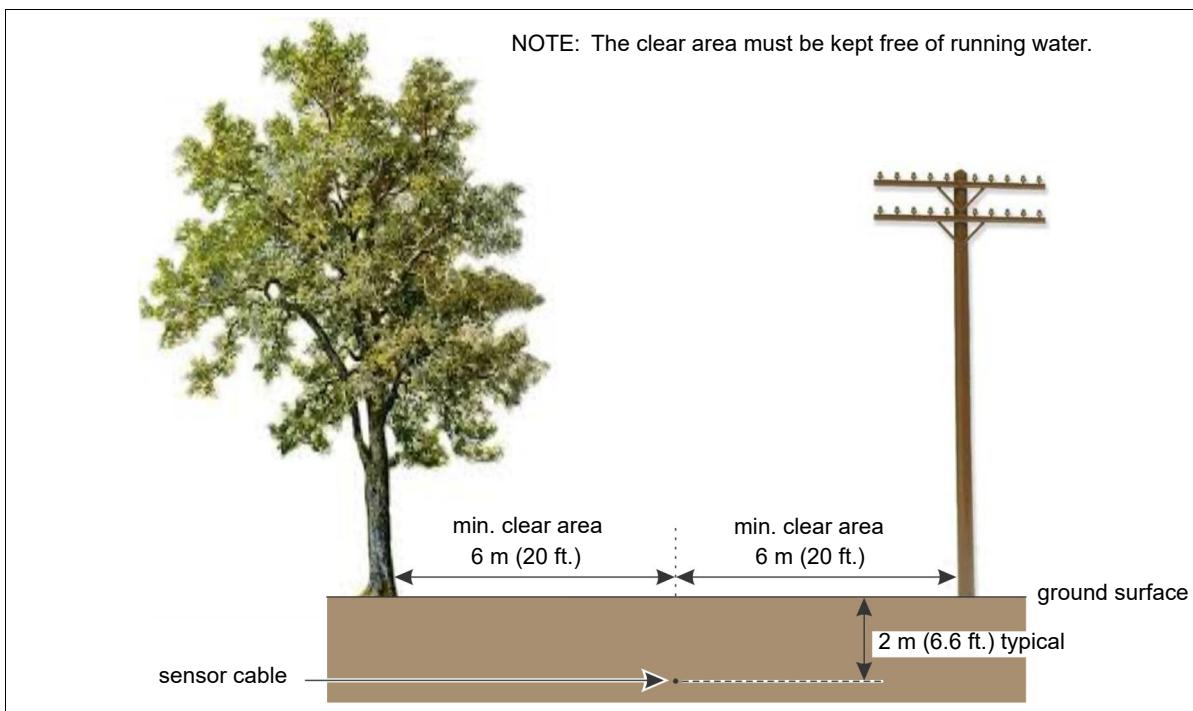

Figure 65: Minimum separation distances from obstacles
- recommended clearance: minimum 6 m (20 ft.) of clearance on each side of the sensor cable to prevent vibrations created by an object from disturbing the cable; total clear area centered over cable 12 m (40 ft.) (e.g. fences, sign posts, utility poles, trees, bushes and vegetation over 30 cm high, etc.) (see Figure 65:)